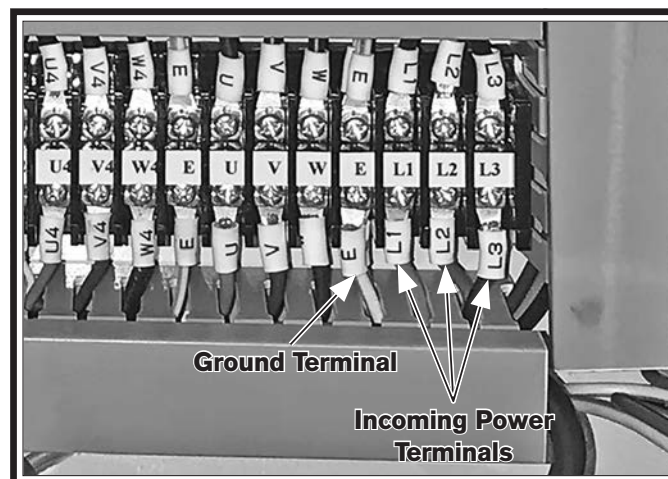

Figure 26. Incoming ground and power wire terminals.
During next step, make sure incoming ground wire is connected to correct terminal to ensure machine will be properly grounded (see "Ground Terminal" in Figure 26). An ungrounded or improperly grounded machine can cause electrocution if live electrical wires make contact with frame or other parts touched by operator.
3. Connect ground wire to bottom of ground terminal "E", then connect incoming power wires to bottom of "L1", "L2", and "L3" terminals (see **Figure 26**). If using a phase converter, connect wild wire to "L2" terminal.